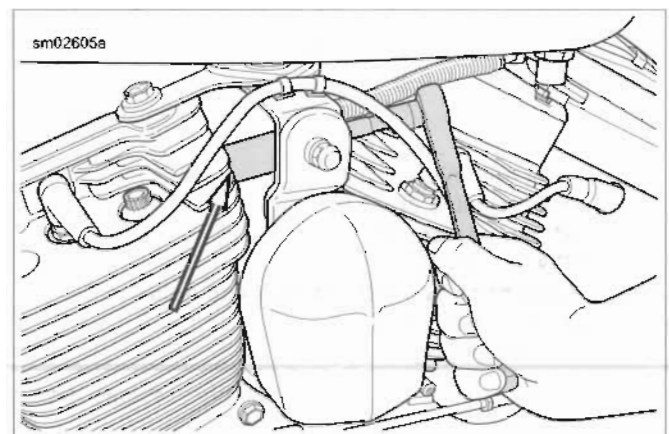

Figure 4-18. Engine Temperature Sensor Removal
5. See Figure 4-18. Loosen ET sensor using socket. When sensor starts to turn easily, finish removing by hand.